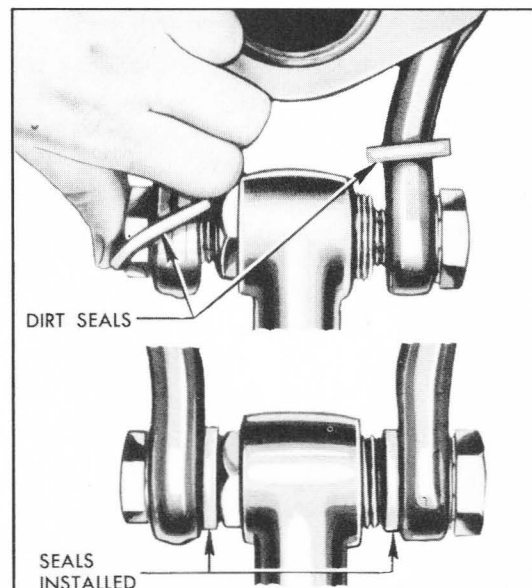

Figure 6-19—Installing Dirt Seals
3. Slip the lower pivot pin dirt seals over outer ends of lower control arm. Centralize lower end of knuckle support between outer ends of lower control arm, then install lower pivot pin and lockwasher from front side and tighten securely. Install and tighten nut. Snap dirt seals into place over pivot pin. See figure 6-19.